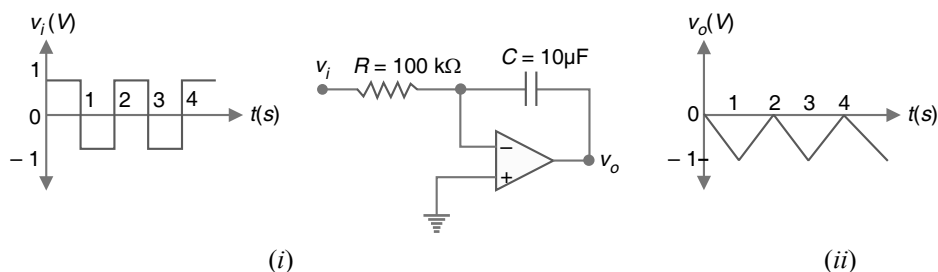

Fig. 23.84
**Example 23.50.** Fig. 23.84 (i) shows the OP-amp integrator and the square wave input. Find the output voltage.
When we integrate a constant, we get a straight line. In other words, when input voltage to an integrator is constant, the output is a linear ramp. **Therefore, the integration of the square wave results in the triangular wave as shown in Fig. 23.84 (ii).** Since the input to the integrator is applied to the inverting input, the output of the circuit will be  $180^\circ$  out of phase with the input. Thus, when the input goes positive, the output will be a negative ramp. When the input is negative, the output will be a positive ramp. Fig. 23.84 (ii) shows this relationship.